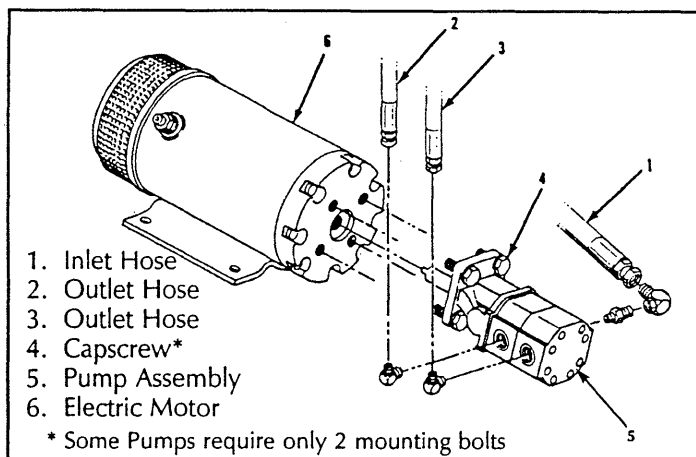

Figure 4-8: Hydraulic Pump
4.8 Hydraulic Pump (Figure 4-8) REMOVAL